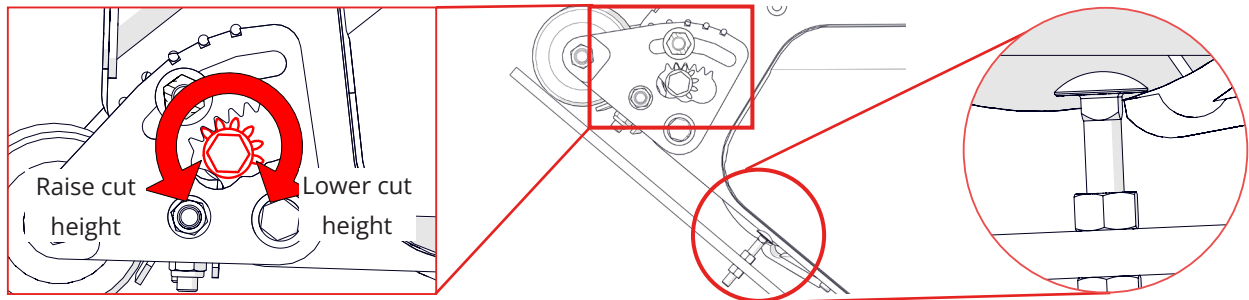

Fig. 6F - Rotate the toothed gear while offering up the setting bar. Stop when the head rests level/within the shear blade
7. Rotate the toothed gear to raise or lower the front roller. While doing this, position up the setting bar again between the front and rear roller. Stop adjusting when the head rests within the lip of the shear blade (Fig. 6F). Tighten lightly the top clamp nut.